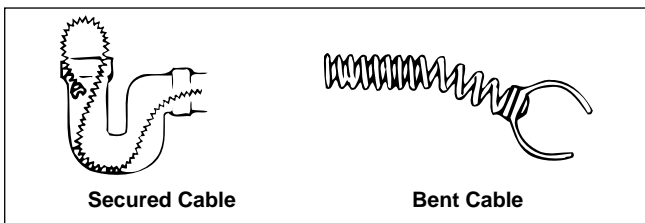

Figure 4 – Securing Cable and Bending Cable for Faster Cleaning
**Securing Cable** – When it is necessary to secure cable already in line while another cable is being fed in through machine, loop cable as shown in Figure 4.
**Faster Cleaning** – Obstructions of grease or fats can be cleaned faster and more effectively by bending the cable some 6 or 8 inches behind the cutter. (Figure 4)